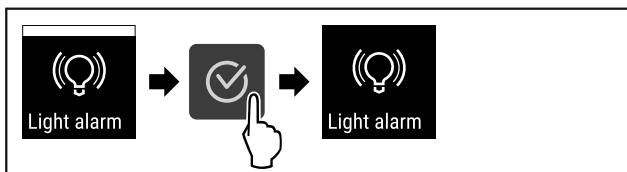

Fig. 98
- ▶ Carry out steps (see Fig. 98) .